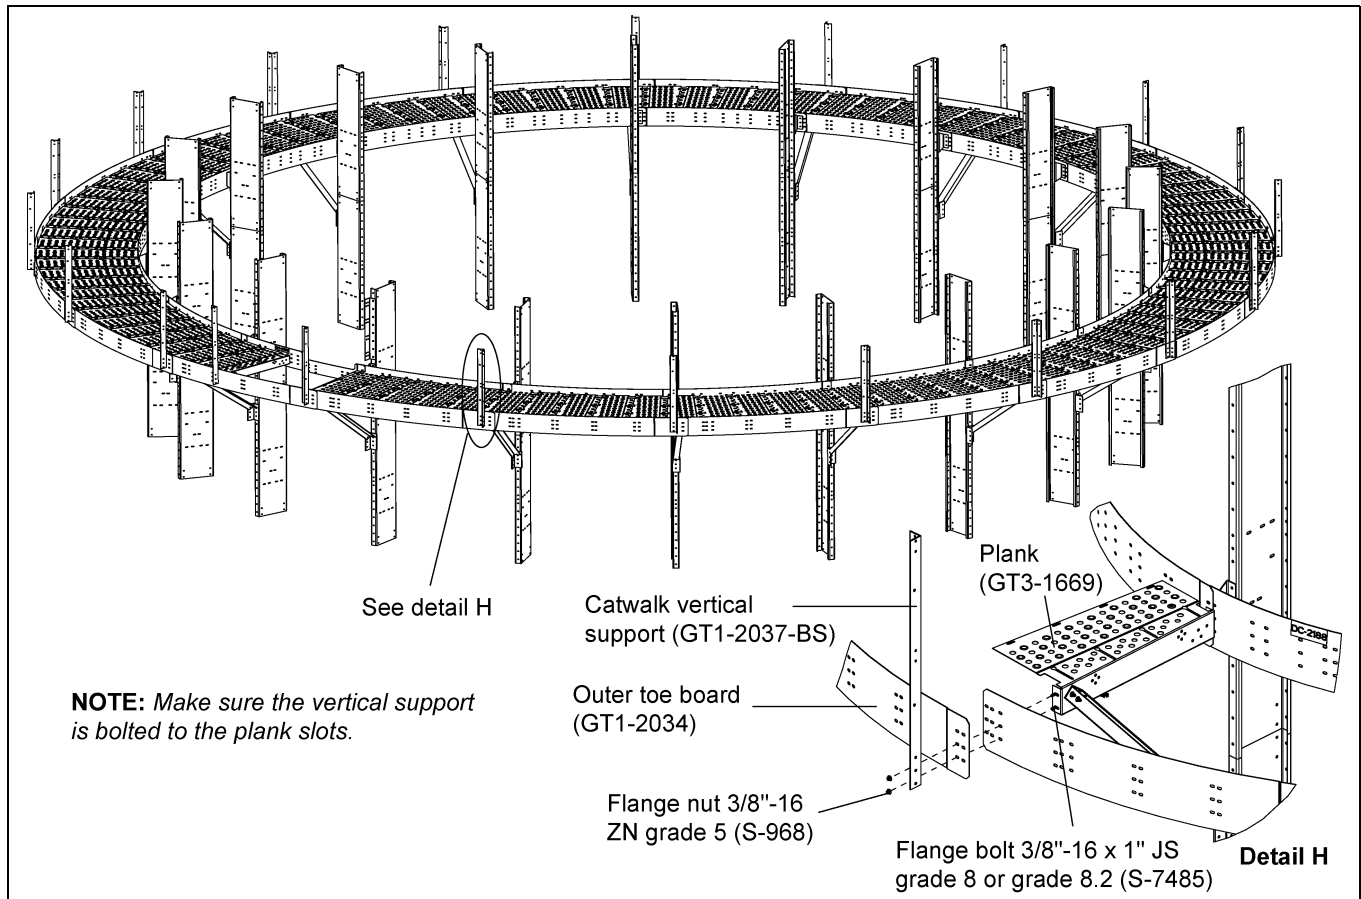
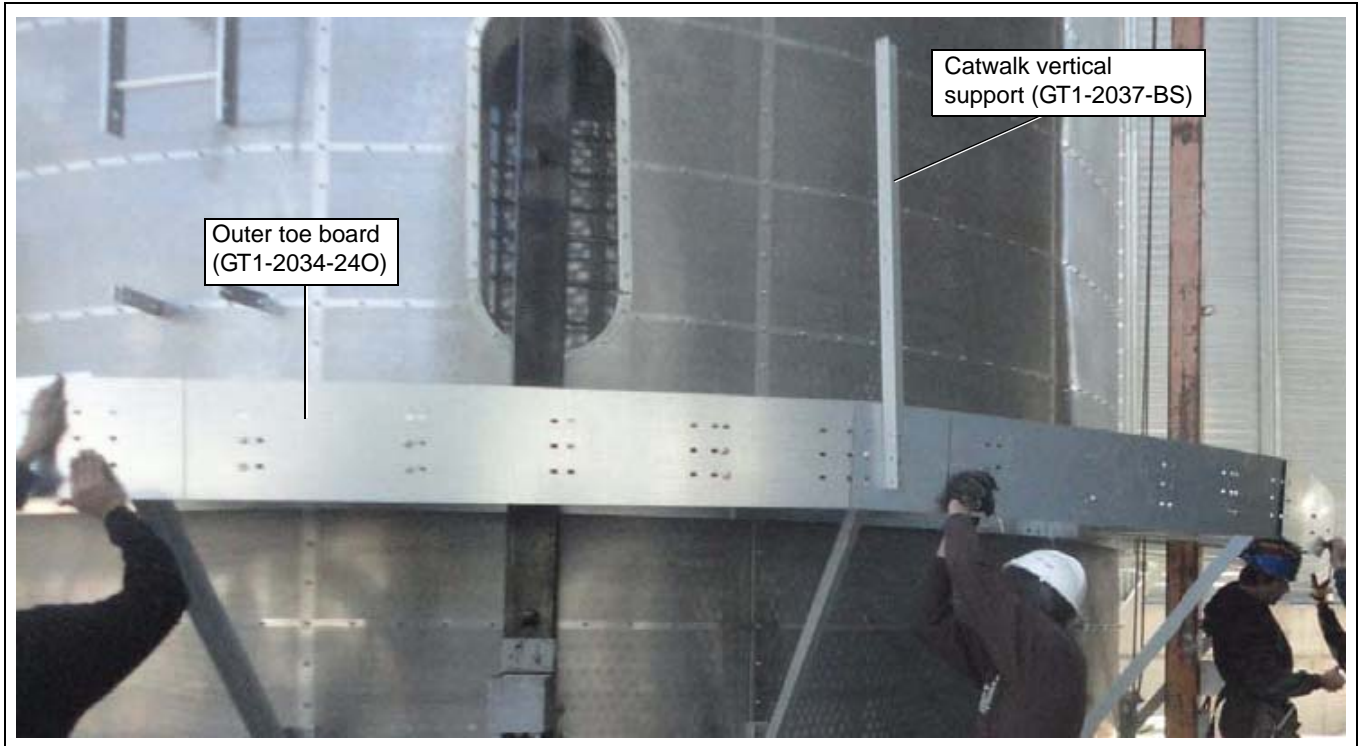

Figure 4R
Figure 4T
1. Install all the outer toe boards (GT1-2034-24O) to the planks (GT3-1669). *(See Figure 4R.)*
2. When installing the outer toe board (GT1-2034-24O) with planks (GT3-1669), install the catwalk vertical support (GT1-2037-BS) simultaneously at proper locations using 3/8"-16 x 1" JS grade 8 or grade 8.2 bolts (S-7485) and 3/8"-16 ZN grade 5 nuts (S-968). *(See Figure 4R and Figure 4T on Page 25.)*